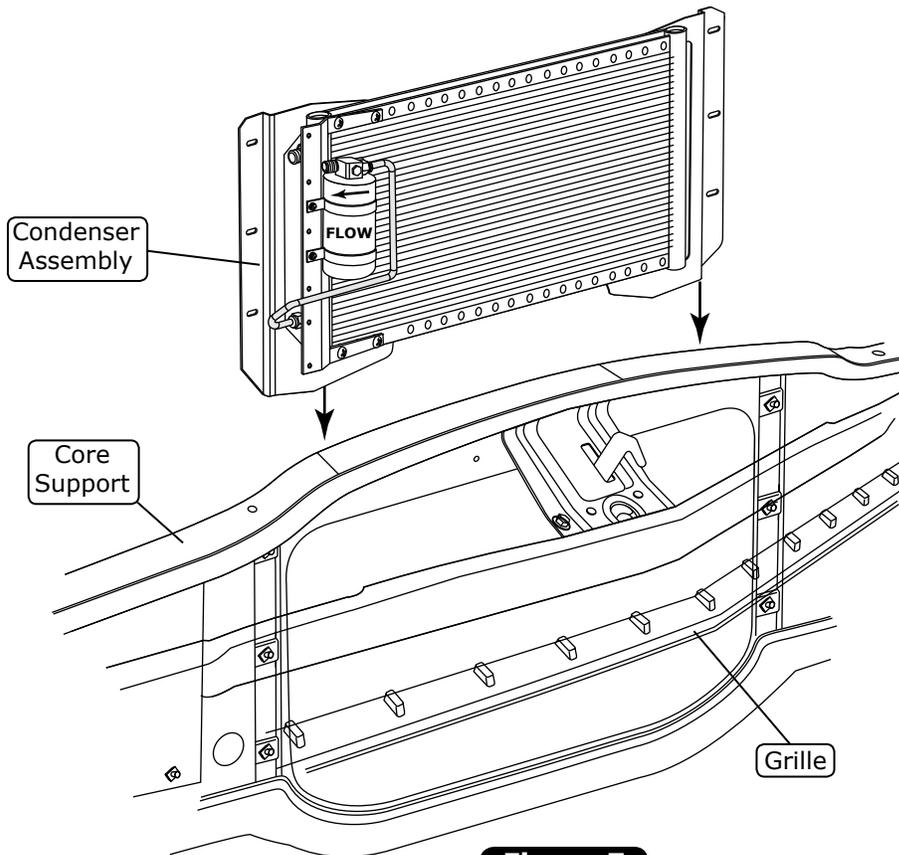

Figure 7
1. Install the condenser assembly onto the engine side of the core support as shown in Figure 7, below.